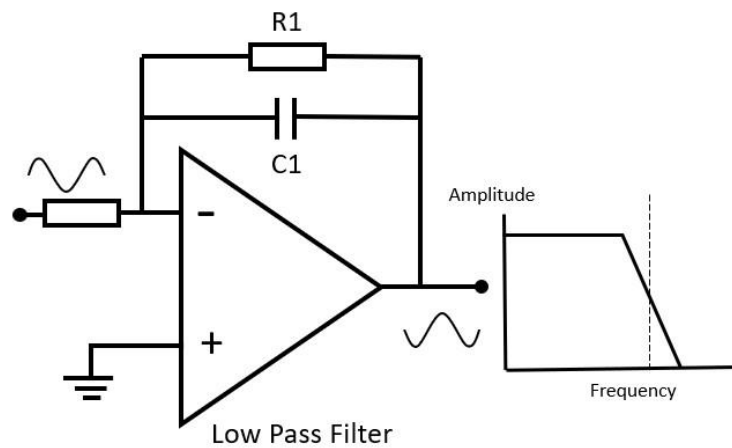

Figure 10: Low Pass Filter.
9. The Low pass filter is a unity gain amplifier passing the frequencies lower than that determined by  $R_1$  and  $C_1$  (Figure 10).